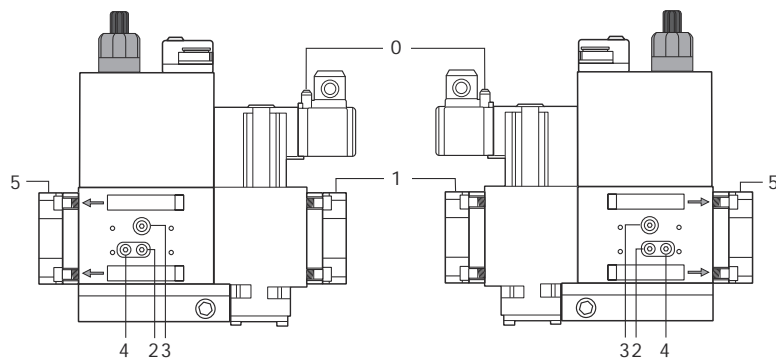
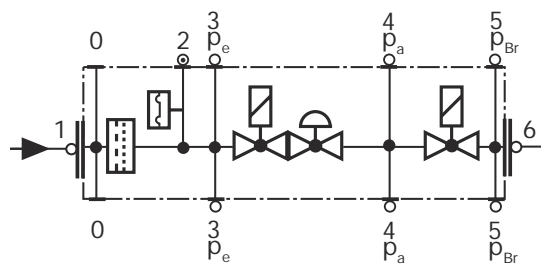

Fig. 24
Fig. 25
A few seconds after the gas valves open, the ignition transformer is switched off. The burner is ignited in low flame, after a few seconds two-stage operation begins and the burner increases or decreases capacity, directly controlled by the external thermostat (in the progressive version) or the modulator (P in Fig. 25, only on modulating burners).
- Change the filter if the pressure difference between pressure connection 1 and 2 (Fig. 24-Fig. 25) $\Delta p > 10$ mbar.
- Change the filter if the pressure difference between pressure connection 1 and 2 (Fig. 24-Fig. 25) is twice as high compared to the last check.